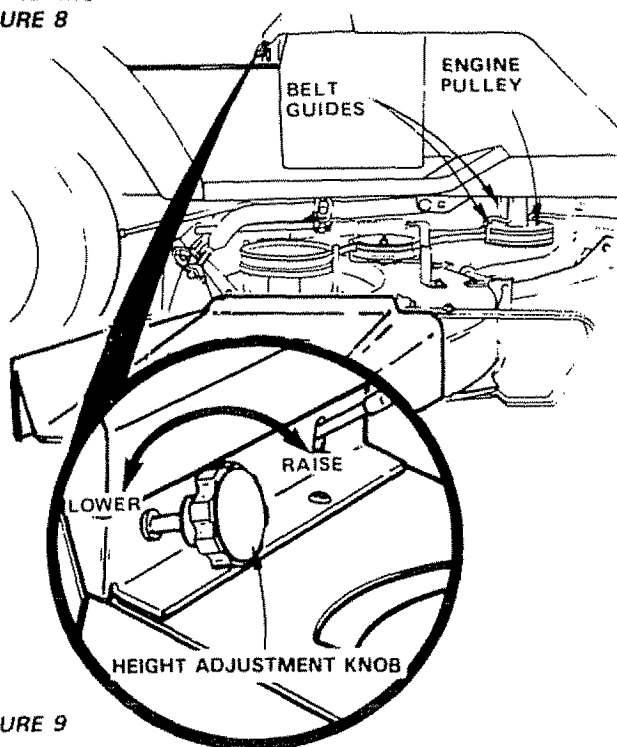
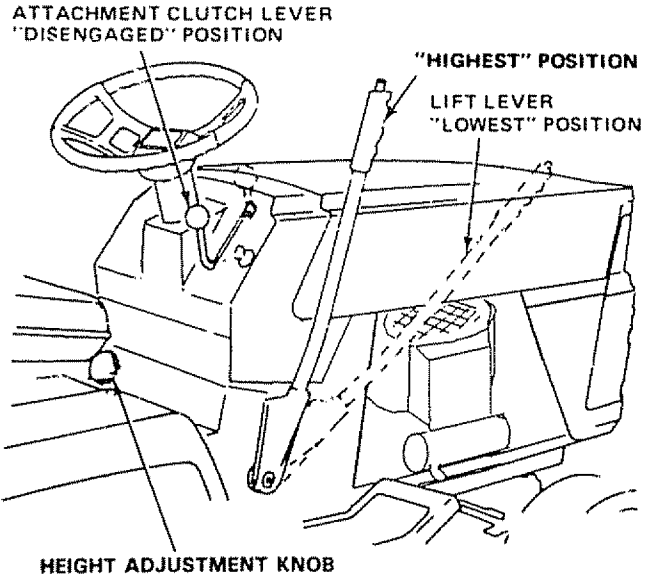

FIGURE 9
FIGURE 10
Your 38" mower installs without the use of tools. Raise lift lever (Fig 10) to its highest position. Turn height adjustment knob (Fig. 9) to its lowest position.
- Roll belt over engine pulley. Make sure belt is inside belt guides (Fig. 9). See belt drive schematic decal on mower housing.
- Use lift lever (Fig. 10) to raise mower.
- Turn height adjustment knob (Fig. 9) clockwise (↻) to the middle of its travel
- Place attachment clutch lever in "DISENGAGED" position (Fig. 10).
- Turn height adjustment knob (Fig. 9) to lowest position. Move mower lift lever (Fig. 10) forward to lower mower to its lowest position.
If the attachment clutch lever (Fig. 10) travels 3-1/2" up the slot in the dash before spring tension resistance is evident, adjustment is necessary.